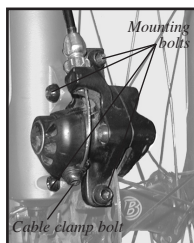

Figure 33- Disc brake
1. Turn the fixed pad adjuster (Figure 33). To increase the pad clearance, turn the barrel adjuster in (clockwise). To reduce the pad clearance, turn the barrel adjuster out (counter-clockwise).